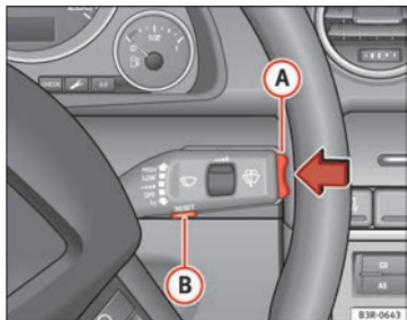

Fig. 64 Windscreen wiper lever: Reset button and rocker switch
Functions of the **Reset** button (B) ⇒ Fig. 64 and the **rocker switch** (A):